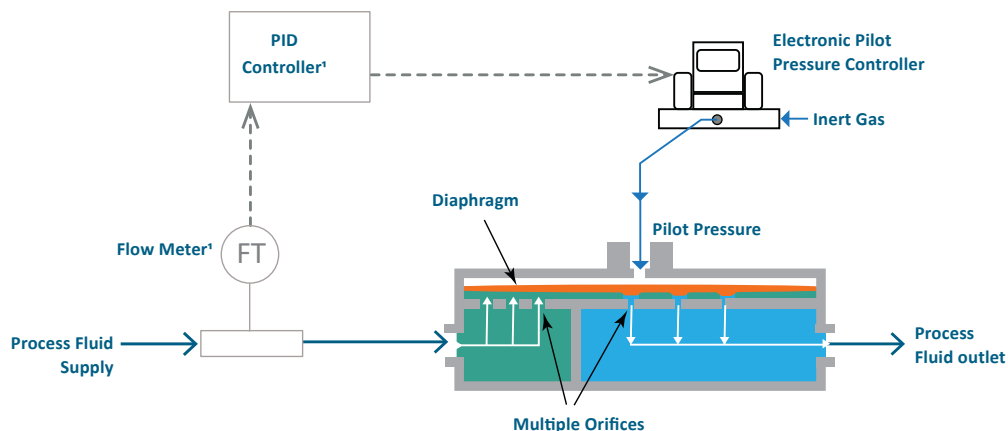
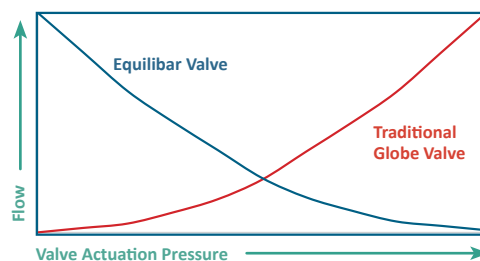

Fig. 1 Schematic of how the Equibar regulator works in flow control
Fig. 2: Flow Response to Actuation Pressure for Traditional Flow Control Valve and an Equibar Valve
In a flow control configuration, the Equibar® flow control valve (FCV) uses an electronic pilot pressure controller and a flow meter in a control loop. **See Fig. 1.** A proportional-integral-derivative (PID) controller monitors input from a flow transmitter (FT) and adjusts the pilot pressure to control flow. An electronic pressure controller translates the electronic signal from the PID into a pressure signal for the pilot pressure. Flow is decreased by raising the pilot pressure and increased by lowering the pilot pressure. **See Fig. 2.**
When using the Equibar FCV, the PID loop must be used in **direct mode** instead of the more common inverse mode used by traditional control valves. Pressure must be **increased** in response to an **increase** in flow. Opposite flow responses of a traditional globe control valve (red) and an Equibar FCV (blue) in response to actuation pressure are represented in Fig. 2.